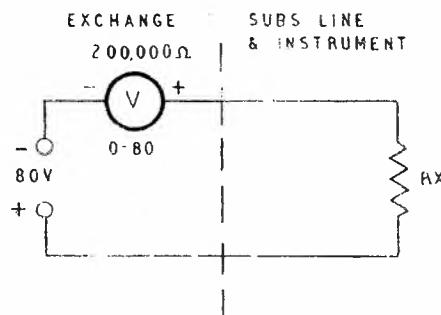

FIG. 2.
1. Using the Series Voltmeter method, as shown in Fig. 2, calculate the insulation resistance of a subscriber's line when the testing voltage is 80V, the voltmeter resistance is 200,000 ohms, and the voltmeter reading when connected in circuit, is 20V.